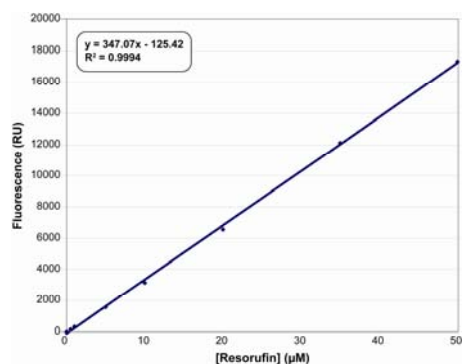

Figure 2: Resorufin Standard Curve.
- A. **Plot the standard curve:** Calculate the average fluorescence of the standards. Subtract the fluorescence value of standard A from itself and all other standards. Plot these values against the final concentrations (see Preparation Before Use, Step F). See Figure 2 for a standard curve.